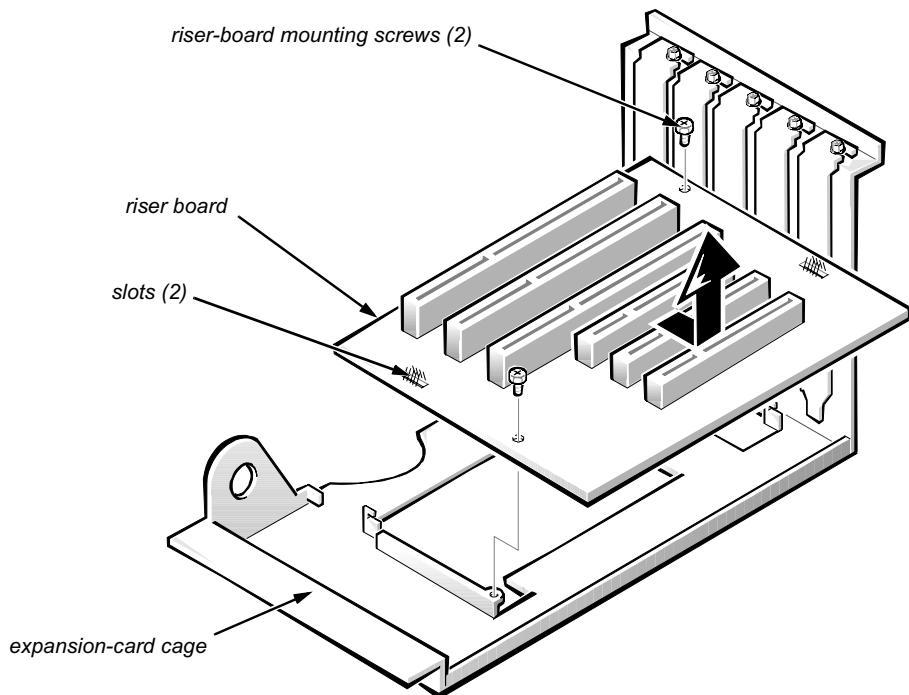

Figure 5-18. Riser Board Removal
- 4. Slide the riser board over (as shown by the arrow in Figure 5-18) until it stops; then lift the riser board away from the expansion-card cage.**